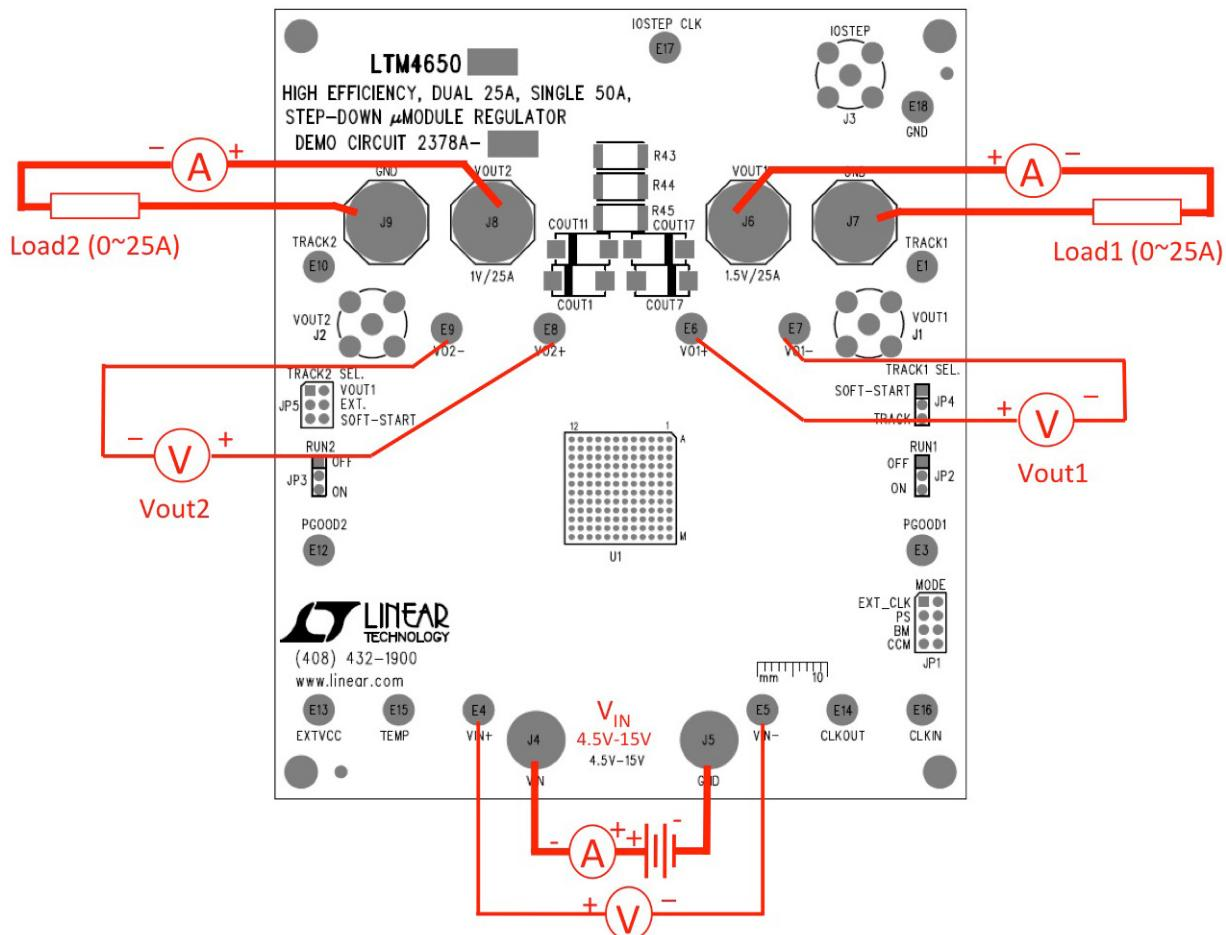

Figure 2. Test Setup of DC2378A-A
Demonstration circuit DC2378A-A is easy to set up to evaluate the performance of the LTM4650EY. Please refer to Figure 2 for proper measurement setup and follow the procedure below:
2. With power off, connect the input power supply, load and meters as shown in Figure 2. Preset the load to 0A and V_{IN} supply to 12V.